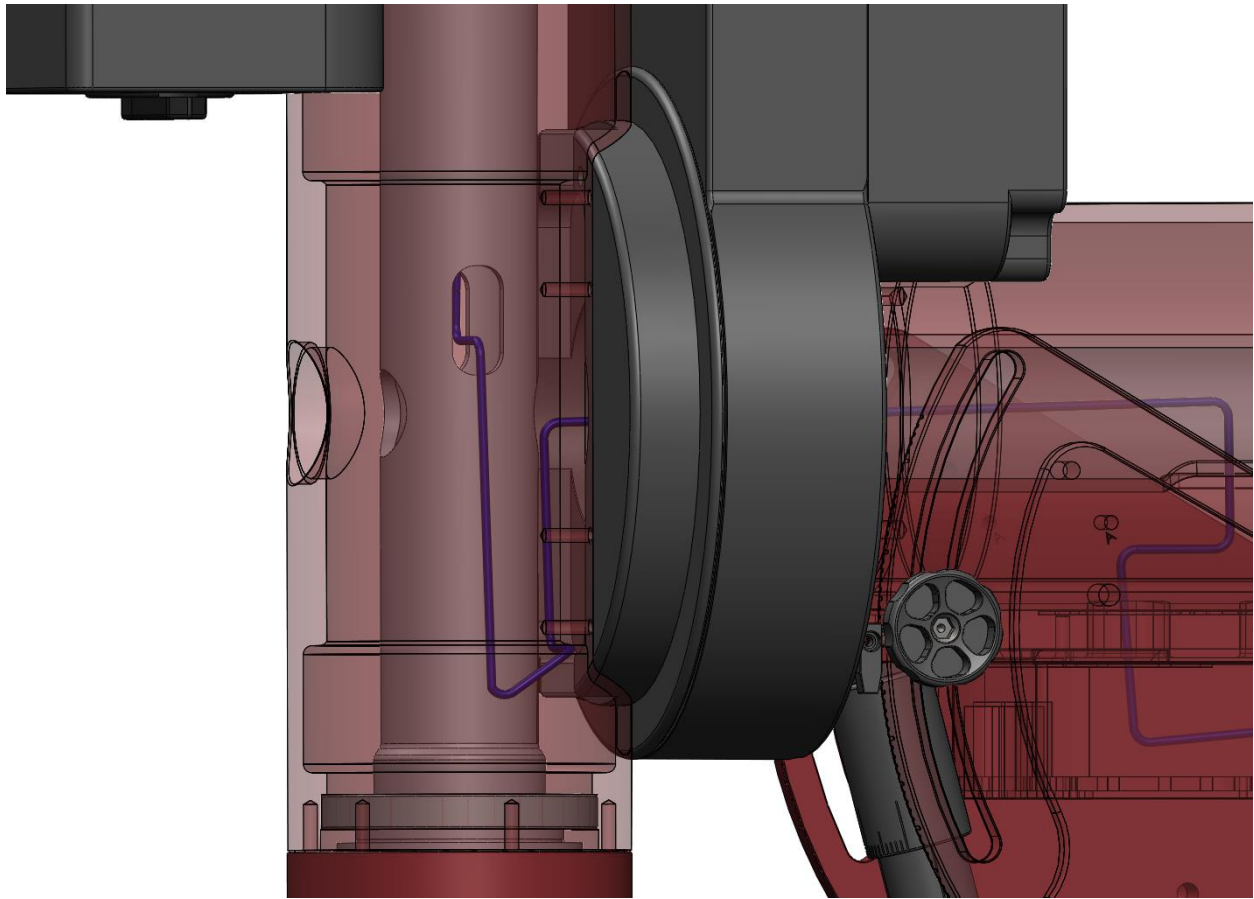

Figure 9: Close up view showing the proper routing of the through the Paramount MX declination axis.
10. Once the cable has been passed all the way through the mount, make an 8-inch loop in the cable and carefully tuck this loop inside the outer shaft of the declination assembly to allow the declination axis to rotate completely without any interference from the cable itself (see Figure 9). Rotating the declination axis from hard stop to hard stop more or less does the work for you, but allowing additional slack in the cable is recommended.